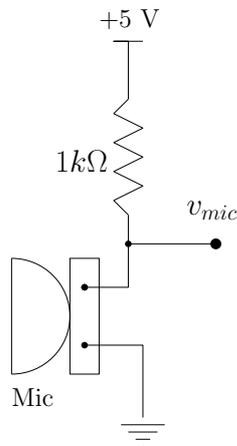

Figure 2: Using a microphone to convert sound into electrical signals.
1. Setup the circuit shown in the Figure 2. The type of mic that you will use in the lab is called a *condenser microphone*. Contrast it to a *dynamic microphone*. It needs to be biased by a power supply to work. This is done using the +5V battery and the resistor.